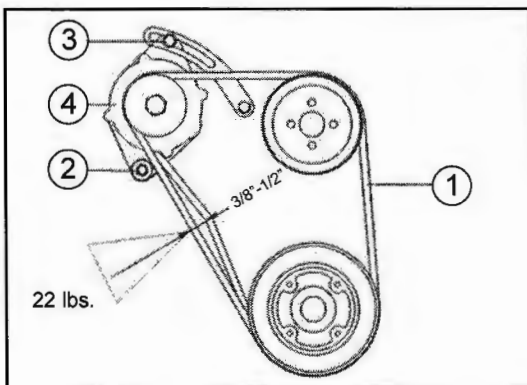

Fig. 28-1 - Fan Belt Adjustment
To check the proper tension of the fan belt (1), press against it with a force of approximately 22 lbs. (See Fig. 28-1).